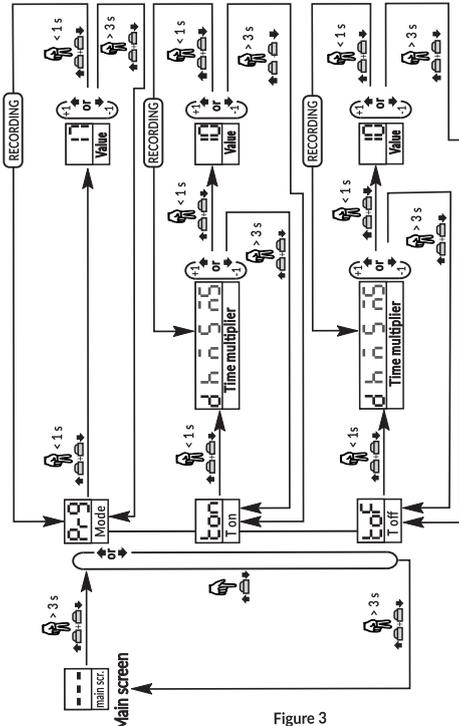

Figure 3
Figure 3 shows the diagram for the configuration of the article.
Press the buttons (UP) + (DOWN) one time to save the selected mode and return to the main menu. Figure 3 shows the complete programming diagram for the product.